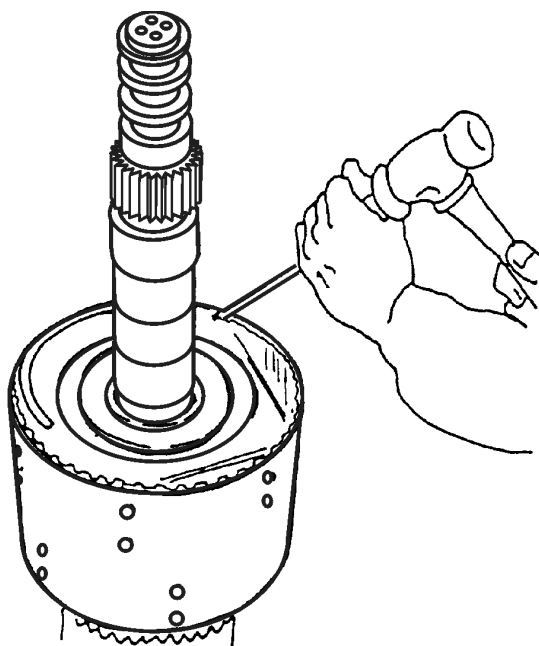

Fig. 7C.34. Removing Retaining Ring
39. Remove retaining ring (43) as showed in Fig. 7C.34 and support plate (44). Remove friction discs (45) and separator plates (46) taking note of their sequence for reassembly. Inspect discs and drive plates for signs of wear and/or excess heat. Remove spacer ring (48) and dowel pin (47).
40. Remove captured spring piston assembly (51 thru 55). Place piston in a suitable position where two C clamps can be fitted to compress spring retainer (53). Compress assembly and remove retaining ring (51) and washer (52). Then remove C clamps. Remove 6 clutch return springs (54). Inspect spring guides (80) for wear, breakage or looseness. If spring guides are satisfactory, it is not necessary to remove them. if they are removed heat may be required as they are installed with LOCTITE. Remove and discard teflon seal ring (58) and O-ring (57) from hub/drum (12) and remove seal ring (56) from shaft (10).
41. If hub/drum (12) must be separated from shaft, place hub/drum and shaft assembly in a press. Support drum to prevent damage and press shaft out. Remove O-ring (11).
42. If necessary, disassemble range clutch shaft components parts (2 through 7, Fig. 7C.33A) from shaft (1).